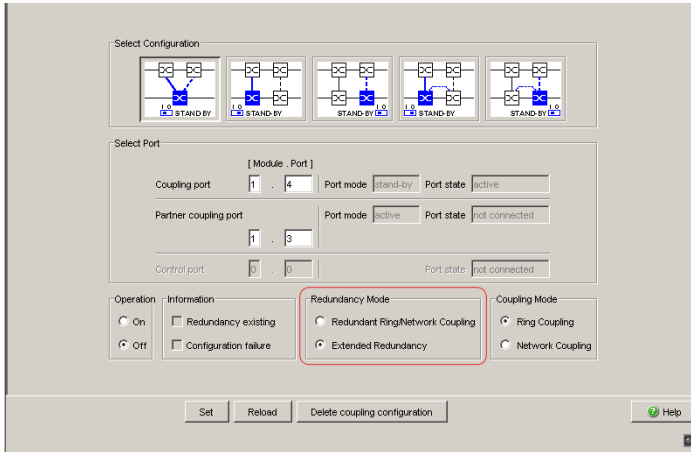

Figure 23: Selecting the redundancy mode
- In the “Redundancy Mode” frame, select (see figure 23)